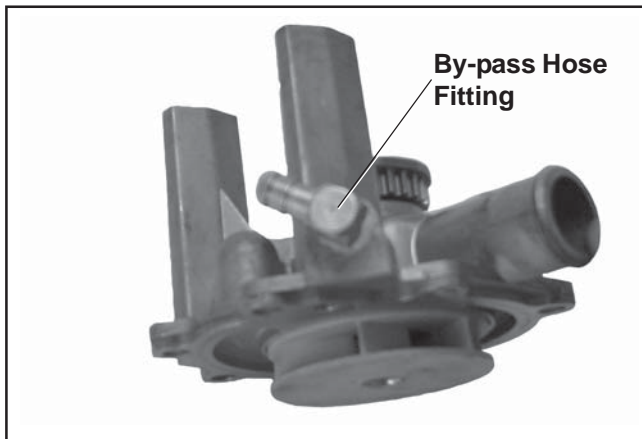

Figure 11-58. Fitting Position in Water Pump.
2. If the fitting for the by-pass hose in the water pump was removed previously, apply pipe sealant with Teflon® (not Teflon® tape) on the threads and install onto the pump. Orient the fitting so the outlet points in the 10 o'clock position as shown in Figure 11-58.